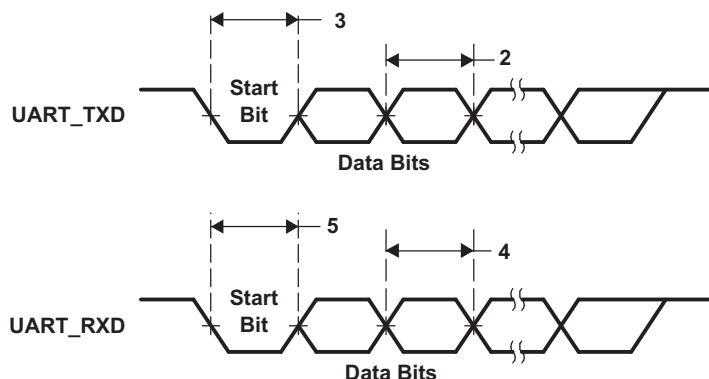

Figure 5-29. UART Transmit/Receive Timing
Table 5-30. Timing Requirements for UART Receive(1)(2) (see Figure 5-29)
(1) U = UART baud time = 1/programmed baud rate.
(2) These parametric values are measured at DVDDIO = 3.3 V, 2.75 V, and 2.5 V
Table 5-31. Switching Characteristics Over Recommended Operating Conditions for UART Transmit(1) (2) (see Figure 5-29)